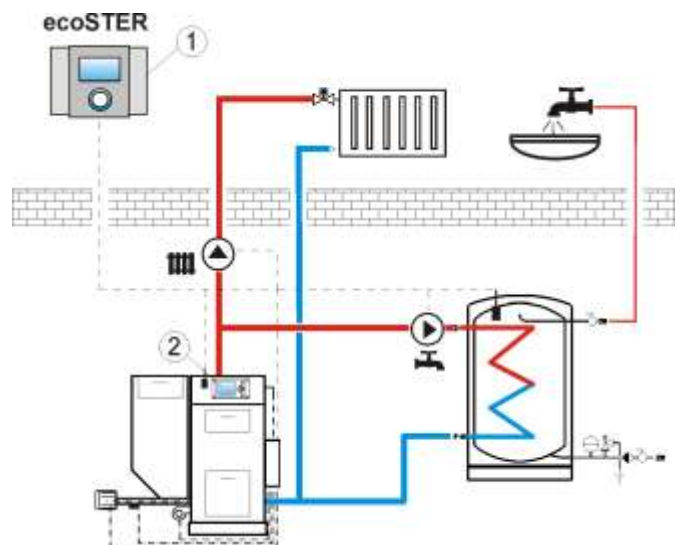

Fig. 7.41 Diagram of cooperation of ecoSTER200 with ecoMAX800, where 1 - ecoSTER200, 2 - ecoMAX800 boiler regulator.
In order to display the ecoMAX (2) boiler regulator main screen Fig. 7.4, turn the button right when the thermostat main screen is displayed. Push the button shortly to display the boiler regulator menu. This menu is similar as in ecoMAX boiler regulator and therefore, the instructions of boiler regulator have to be followed.